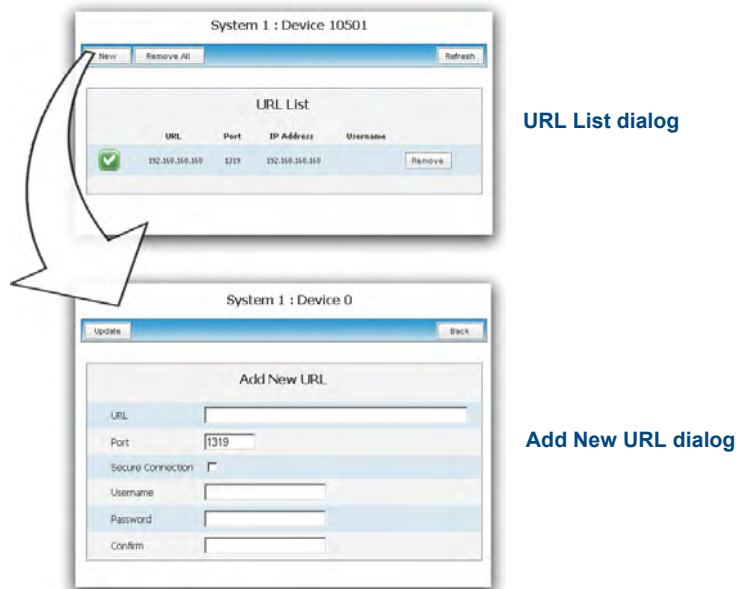

FIG. 53 URL List dialog
3. Click the **URL List** button to open the URL List dialog (FIG. 53). This dialog allows the user to view, add, and remove URLs from the specified devices URL list.